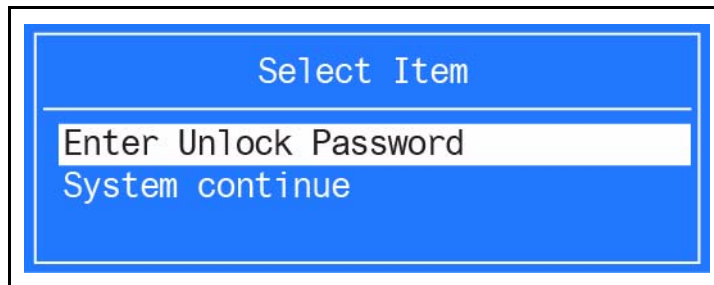

Figure 2-19. Select Item
1. Press **Enter** to continue. The Select Item dialog is shown. (Figure 2-19)